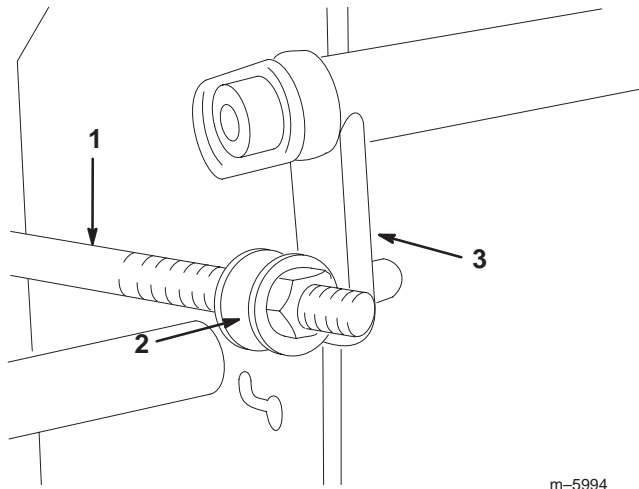

Figure 9
1. Insert control arm swivel thru hole in speed control crank and secure with hairpin cotter (Fig. 9).